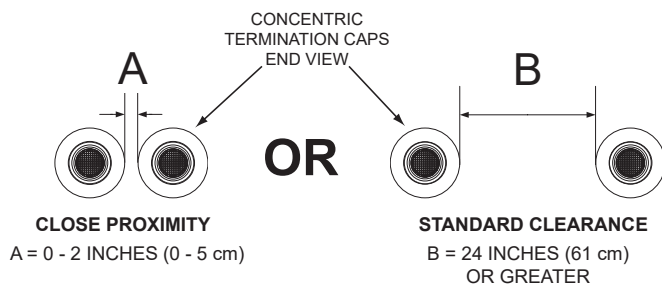
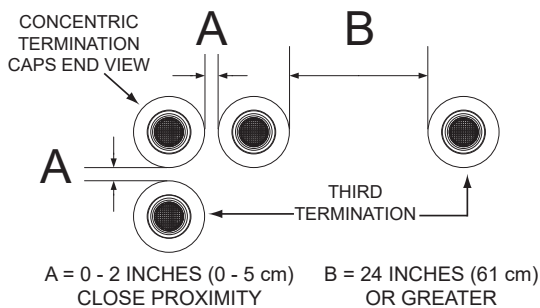
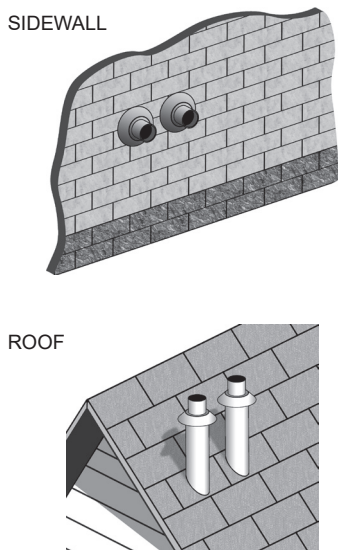

Figure 34. Two Concentric Terminations
Figure 35. Three Concentric Terminations
Figure 39. Two Concentric Terminations (Side-Wall And Roof)
When installing multiple concentric terminations through a roof or through a sidewall the clearances shown in **Figure 34** must be maintained.
1. The clearance between multiple termination caps must be zero inches (touching) to a maximum of two inches (5 cm), dimension A - **Figure 34**, when installing concentric terminations in close proximity. See **Figure 39** (page 43).
2. The clearance between multiple termination caps must be increased to a minimum of 24 inches (61 cm), dimension B - **Figure 34**, when installation in close proximity (above) is not possible. This is the standard clearance.
1. When installing three concentric terminations through a roof or through a sidewall the third termination may be installed in close proximity as indicated by dimension A in **Figure 35**.
2. If close proximity installation of the third termination is not possible the third termination may be installed as indicated by dimension B in **Figure 35**.
Two concentric terminations may be installed in close proximity as shown in **Figure 39** or with standard clearances when this arrangement is not possible. See **Figure 34** (page 42) for detailed information on clearances. See **Figure 35** (page 42) when installing three concentric terminations.